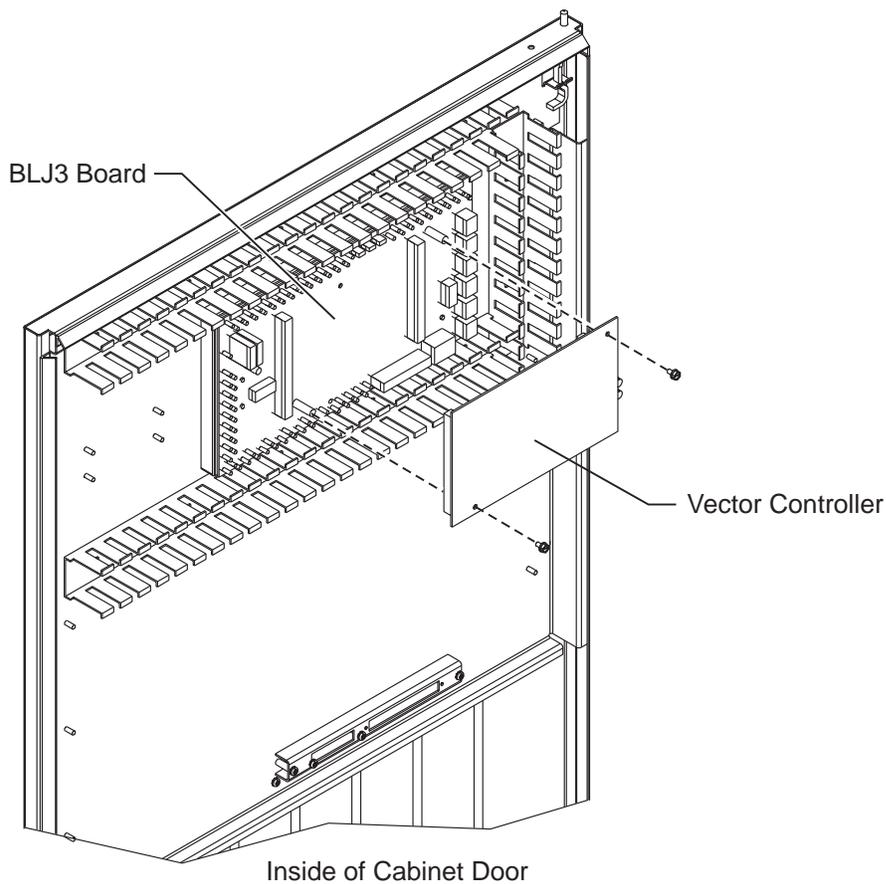
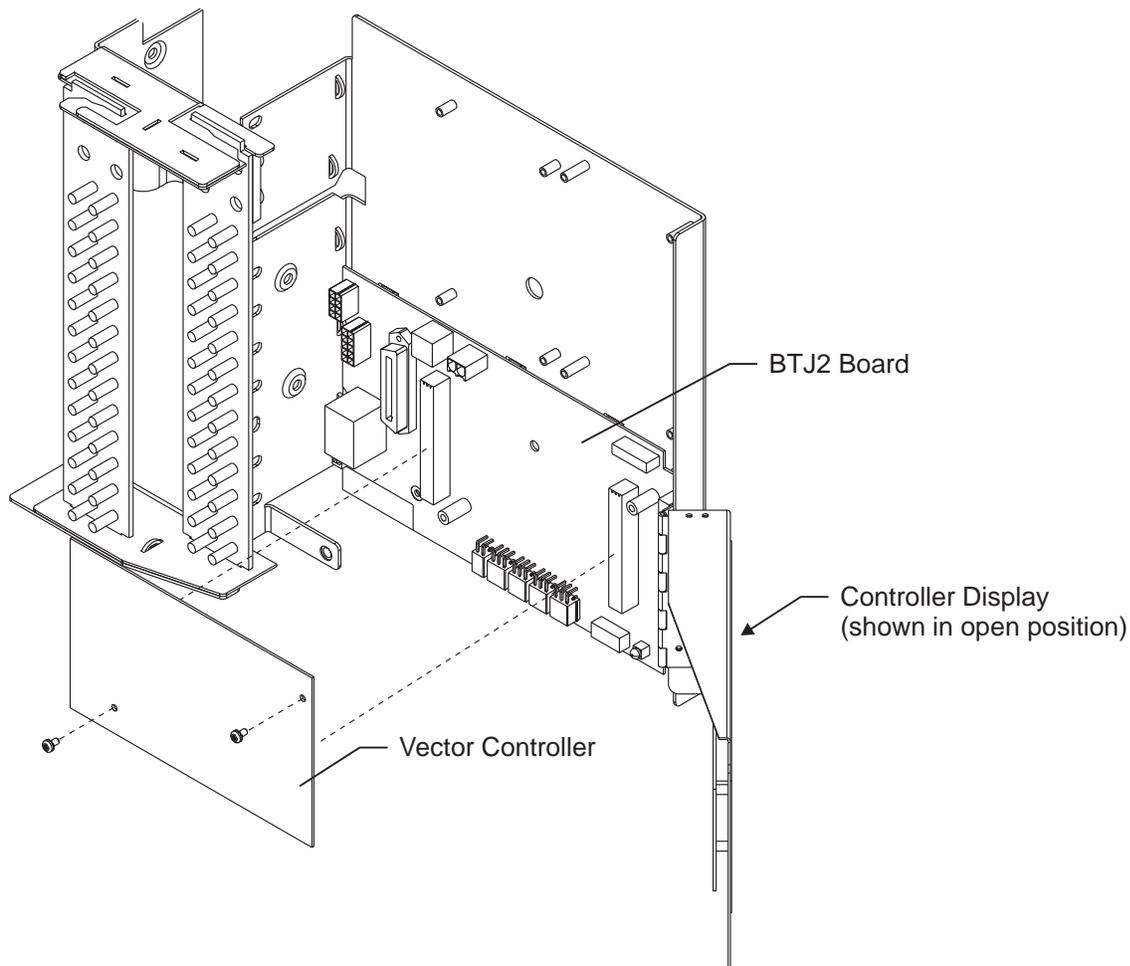

Figure 2-1: Galaxy Vector Controller in a typical GPS plant
Figure 2-2: Galaxy Vector Controller in a Flexent outdoor plant
Figure 2-1: Galaxy Vector Controller in a typical GPS plant	2 - 3
The **Galaxy Vector Controller (VC)** is mounted on the inside front door of a GPS plant with the control panel visible on the front of the door. See Figure 2-1. In the Flexent Outdoor system, the Galaxy VC is installed behind the control/display panel, which swings out to provide access to the VC. See Figure 2-2. Basic specifications of the Vector Controller are summarized in Table 2-A.